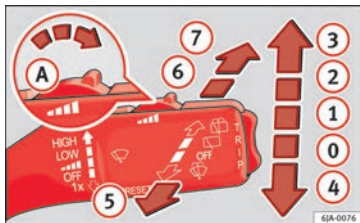

Fig. 56 Window wiper lever.
- Give the windscreen a **brief** wipe by moving the lever down to position **4** » Fig. 56.
- Push the lever up to position **1** » Fig. 56.
- Push the lever up to position **2** » Fig. 56.
- Push the lever up to position **3** » Fig. 56.
- Pull the lever towards the steering wheel, position **5** » Fig. 56, and the windscreen washer and wipers are switched on.
- Press the lever forward to position **6** » Fig. 56 and the rear window wiper will run every 6 seconds.
- Press the lever fully forward to position **7** » Fig. 56 and the rear window wiper and washer switch on at the same time.
- Move the lever to position **0** »» Fig. 56.
The headlight washers operate briefly if the dipped headlights or headlights are on and the lever is moved to position **5** »» Fig. 56. The headlight washer system also operates every 10 windscreen wash cycles.